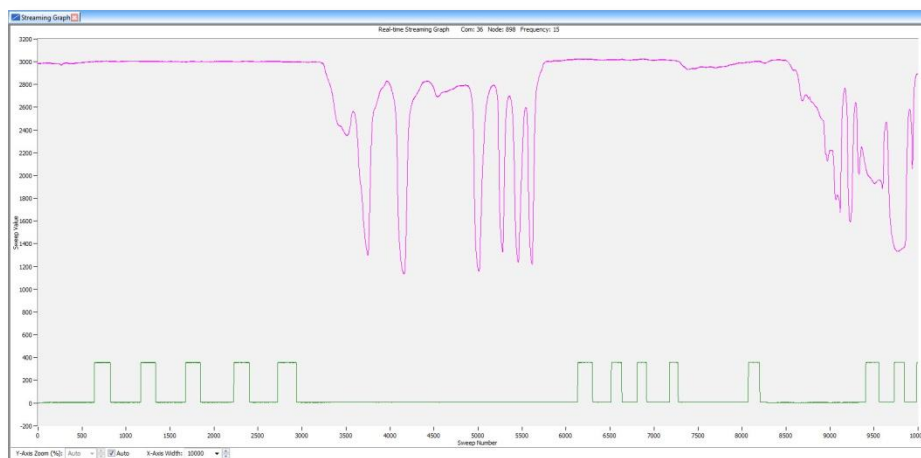

Figure 5: Streaming Graph
- During the streaming, push and release the button on the edge of the Tester Board to shunt the 350 ohm resistor in and out of the stream. This will appear as a stepped (green) line as shown in Figure 5. As expected, steps will be  $\sim 350 \mu\text{-strain}$ .
- During the streaming move your finger over, off and around the photocell to change the light passage. This will appear as a wavy (purple) line as shown in Figure 5.